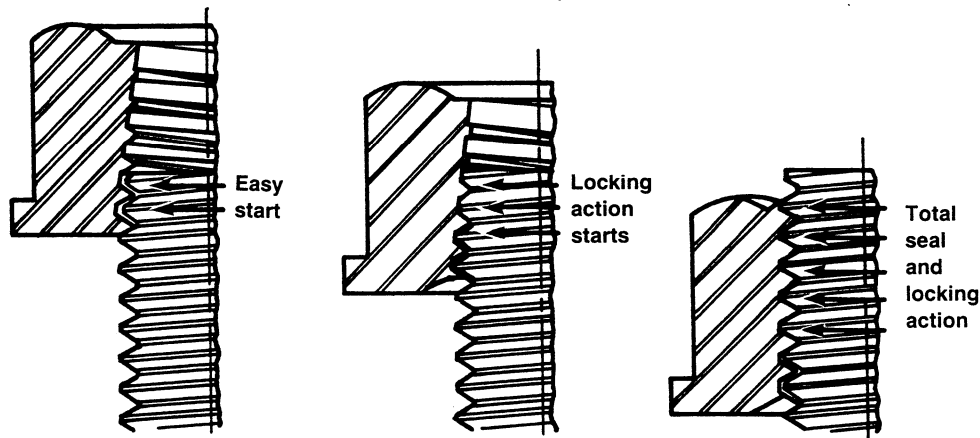

Figure 10.—Tapered thread.
**Tapered thread.**—The tapered thread is a variation of the direct interfering thread, but the difference is that the minor diameter is tapered to interfere on the last three or four threads of a nut or bolt as shown in figure 10.